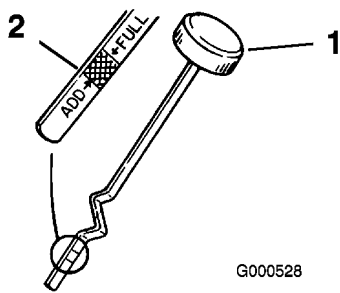

Figure 25
4. Unscrew the oil dipstick and wipe the metal end clean (Figure 25).